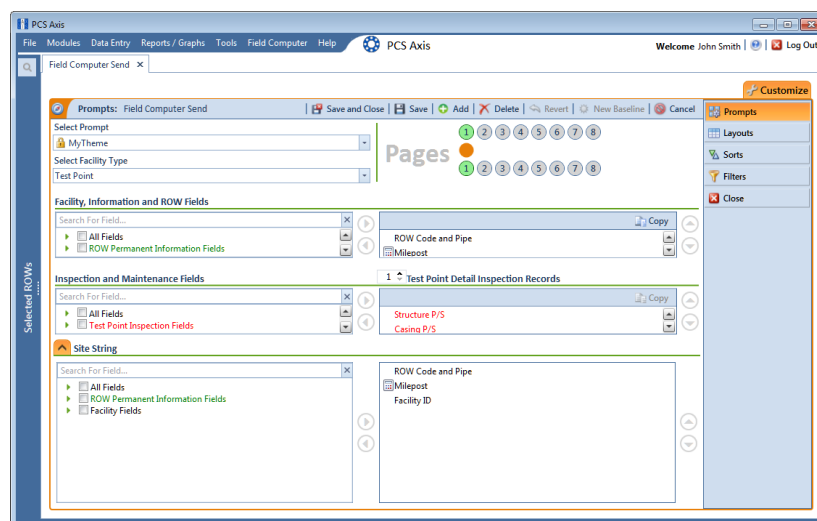

Figure 13-33. Site String
- a Click the **Site String** tab to view a list of fields available for selection (Figure 13-33).